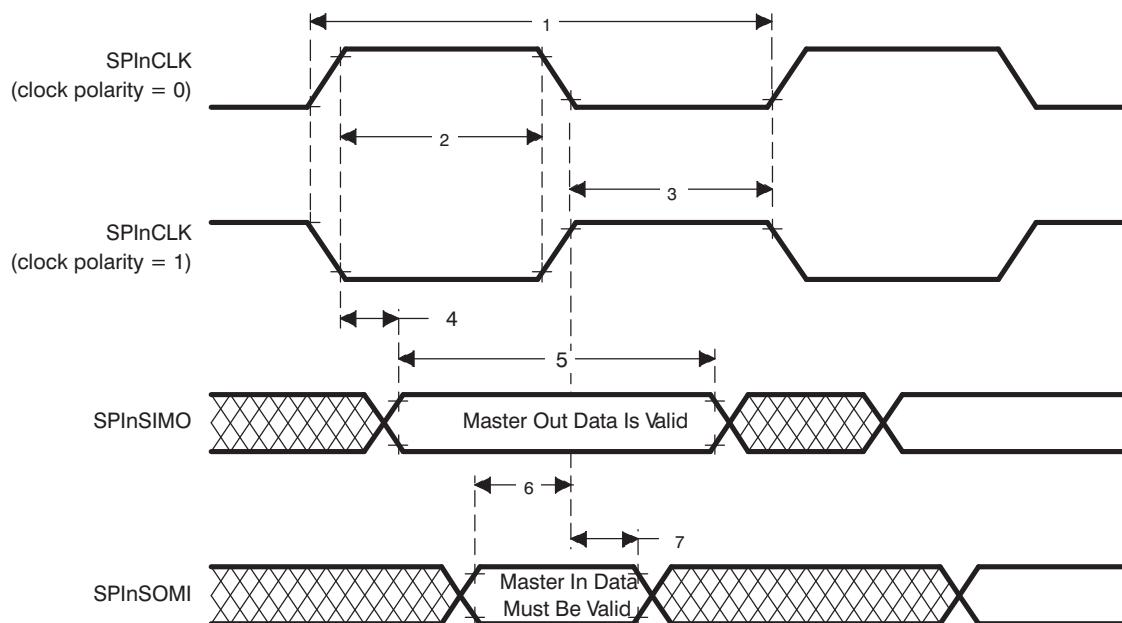

Figure 6-9. SPI Master Mode External Timing (CLOCK PHASE = 0)
(CLOCK PHASE = 0, SPInCLK = output, SPInSIMO = output, and SPInSOMI = input)^{(1)(2) (3) (4)} (see Figure 6-9)